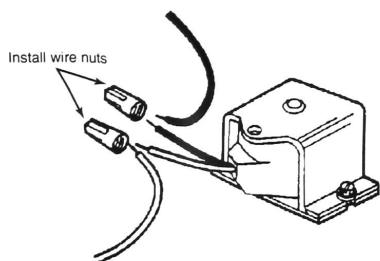

Figure 2
3. Match the coil lead colors and use the enclosed wire nuts to splice the new coil leads into the existing wiring harness (see figure 2).